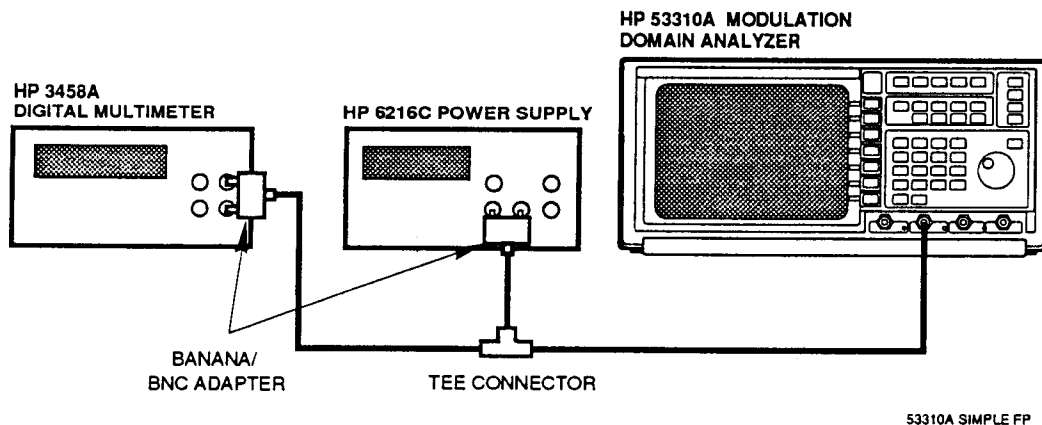

Figure 2-10. Threshold Trigger Accuracy Test Setup
- 3 Connect the HP 53310A to the source as shown in *Figure 2-10*.